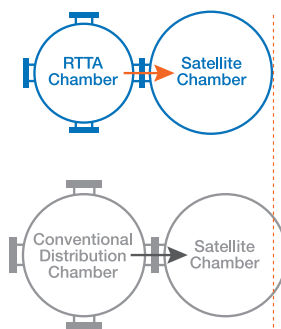

Fig. 2: Reduced system footprint
2. Reduce the overall system footprint, by using a smaller distribution chamber, whilst retaining the same 'extension' (Fig. 2). In doing so, chamber and pump costs are reduced, alongside the pump-down time, improving throughput.